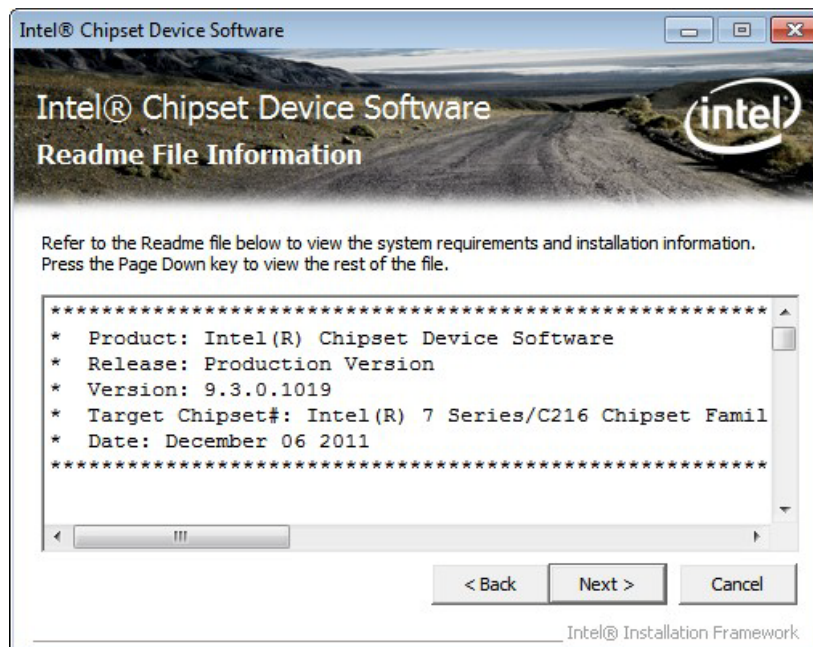

Figure 6-5: Chipset Driver Read Me File
Step 9: The **Read Me** file in Figure 6-5 appears.